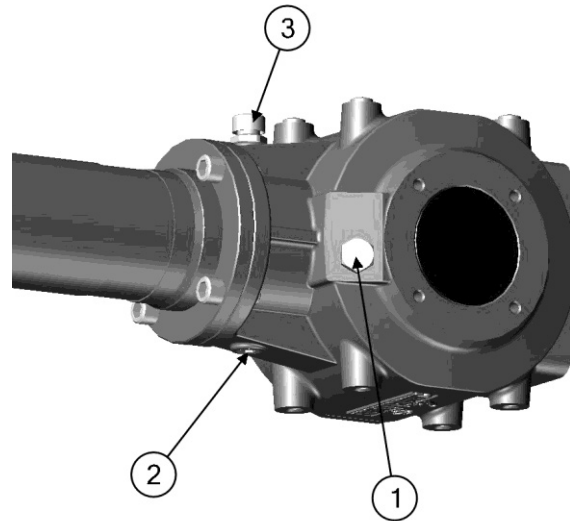

Figure 10
1. Remove the level plug [Figure 10, Item 1].